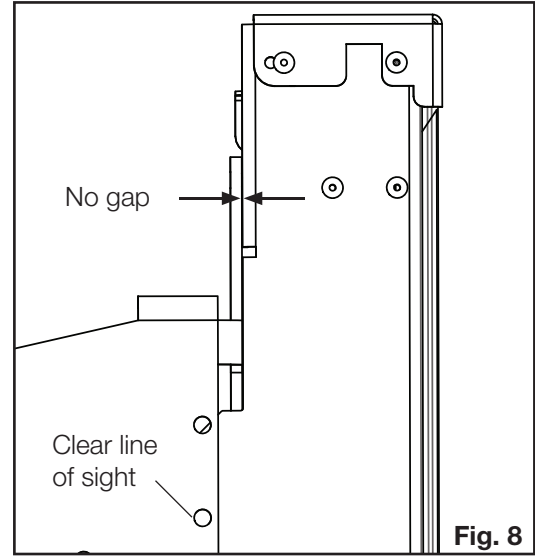

Fig. 8
8. The GGA-1 mount bracket holes should be lined up with the screw holes of the GGA-1 slider brackets to ensure a clear line of sight (**Fig. 8**). It is typically necessary to raise the GGA-1 on both sides using the vertical adjustment screws. Raising the GGA-1 approximately 1/8" typically provides the optimum preliminary fit (**Fig. 9**). Repeat on other end of GGA-1.